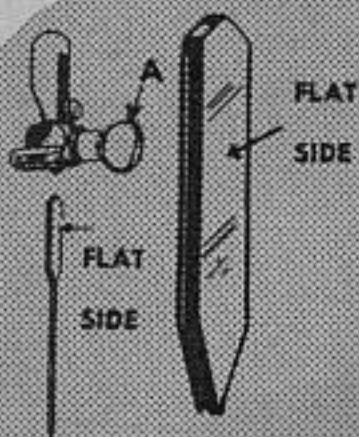

Fig. 3
To replace the needle, raise the needle bar to its highest point by turning the balance wheel (Fig. 3) TOWARD YOU by hand. Loosen the needle clamp screw (A) on the right hand side and the needle clamp will open, allowing the old needle to fall out.
Loosen the balance wheel by turning the stop-motion knob toward you (Fig. 3) and place a spool of thread on the spool pin (A). Pass the end of the thread through the notch on front upper left corner of machine (B), and through the disk at the bottom right of the machine from below (C). Then wind the bobbin seven or eight times with the free end of the thread, and put the threaded bobbin on the spindle of the bobbin winder (D).